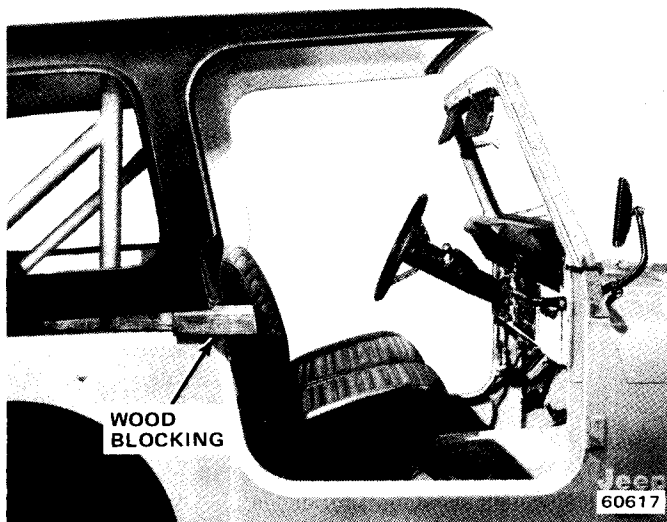

Fig. 18-3 Molded Top Supported with Wood
- (1) Disconnect battery negative cable.
- (2) Remove screws attaching steering column bezel to instrument panel. Remove bezel.
- (3) Disconnect emergency brake bracket from instrument panel.
- (4) Disconnect speedometer cable.
- (5) Disconnect heater control cables from heater.
- (6) Remove windshield clamp knobs and brackets.
- (7) Remove crash pad, if equipped.
- (b) If equipped with a molded top, remove hardware attaching molded top to windshield and rear quarter panels and support top with wood (fig. 18-3).
- (8) Disconnect all electrical connections.
- (9) Remove steering wheel (refer to Section 11).
- (10) Remove turn signal lever (refer to Section 11).
- (11) Remove automatic transmission shift lever, if equipped.
- (12) Remove instrument panel-to-dash panel attaching screws and remove instrument panel.
- (1) If equipped with a soft top, unsnap top snaps at windshield corners, unfasten straps at center and sides of front top support, lay top support back to rear and release top from header retainer.
- (2) If equipped with a molded top, remove hardware attaching molded top to windshield and rear quarter panels and support molded top with wood (fig. 18-3).
- (3) Remove windshield clamp knobs and fold windshield down onto hood.
- (4) Remove screws attaching crash pad and remove crash pad.